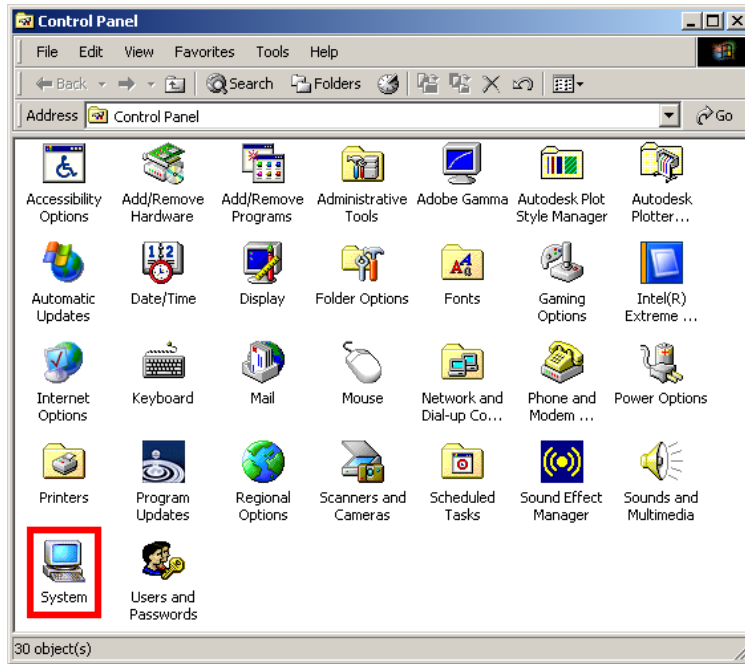

Figure 7-34: System Icon
Step 2: Double-click the **System** icon (Figure 7-34).